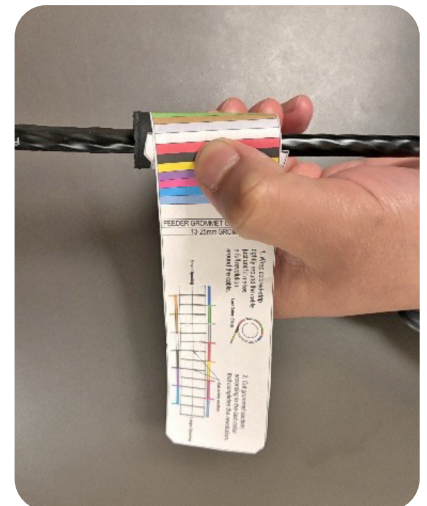

Figure 14
2. Once the branch port is around the cable, use the Feeder Cable Grommet Cutting Guide, identify the feeder grommet size that properly fits over the installed branch grommet. (Figure 14)